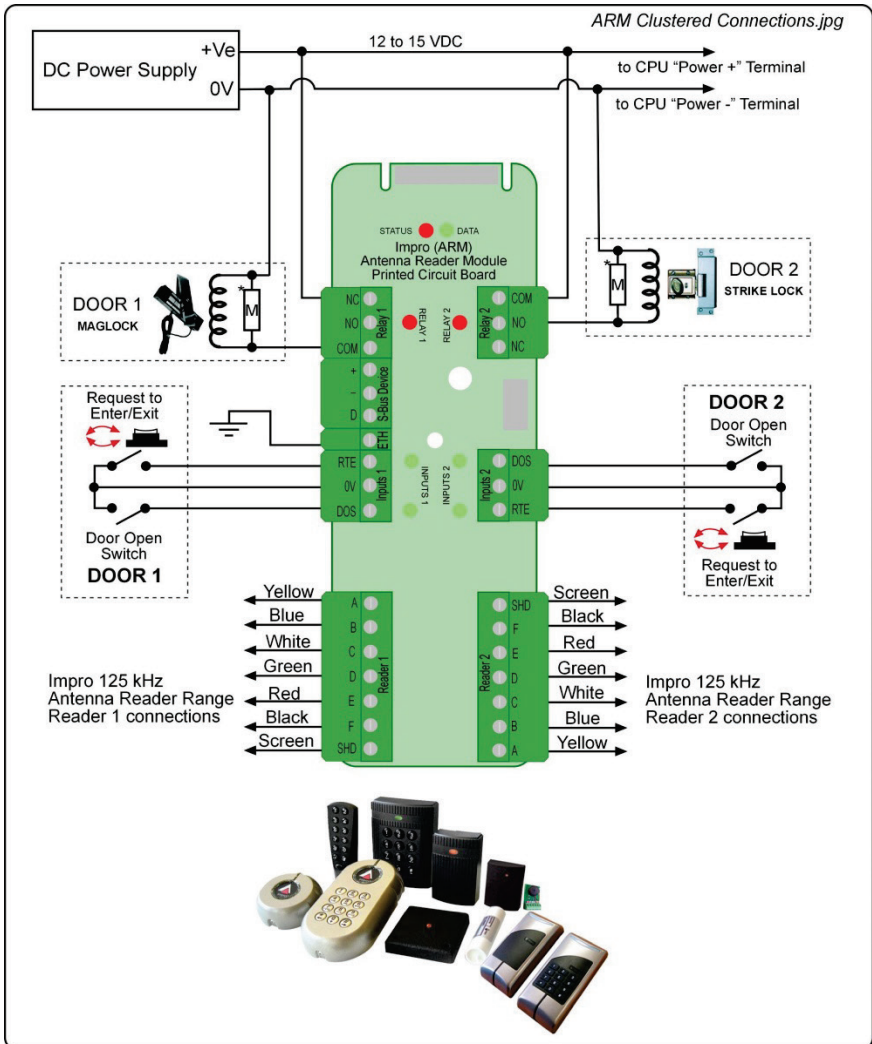

Figure 4: Typical (Clustered) ARM Electrical Connections
Figure 4 shows a detailed electrical connection diagram for the (Clustered) ARM.
- NOTE: **Figure 4** shows typical connections to the ARM in the Plastic Cluster Housing – AND for the PCB Card model when it is installed in a 19" Rack System. The ARM will get its power supply from the Cluster Connection, or the edge-connector, respectively.*